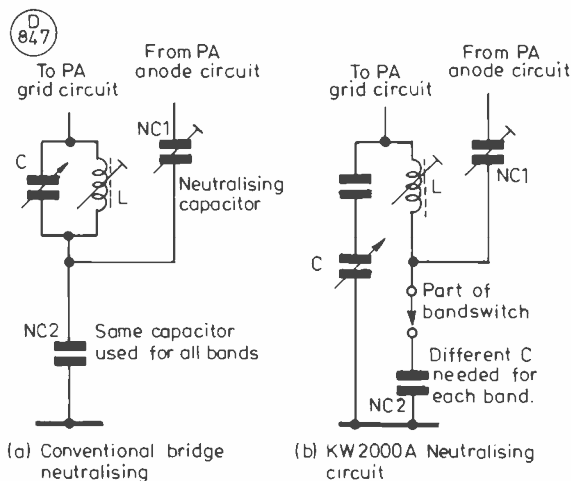

Fig.2 Comparison of a conventional bridge neutralising circuit with the KW2000A system.
Unfortunately, although there was enough latitude in the 7.0-7.2 MHz range preselector tuning to cover the 10 MHz band, this idea did not work too well in practice because of problems with PA instability and poor tracking of the RF tuned circuits. This was largely due to the unorthodox neutralising circuit used in the KW-2000A which, as shown in Fig. 2, is very frequency conscious as it is dependent on the setting of C40c.
**Fig. 2(a).** Neutralising feedback is determined by the potential divider action of Nc1 and Nc2. The adjustment holds over a wide frequency range until stray capacities and/or lead inductance upset the balance. **Fig. 2(b).** Because one side of the tuning capacitor is earthed Nc2 is shunted by L in series with C so that neutralising feedback is affected by the tuned circuit adjustments. In practice, it has been found impossible to maintain *really accurate* neutralising over the 28 MHz band with this circuit.